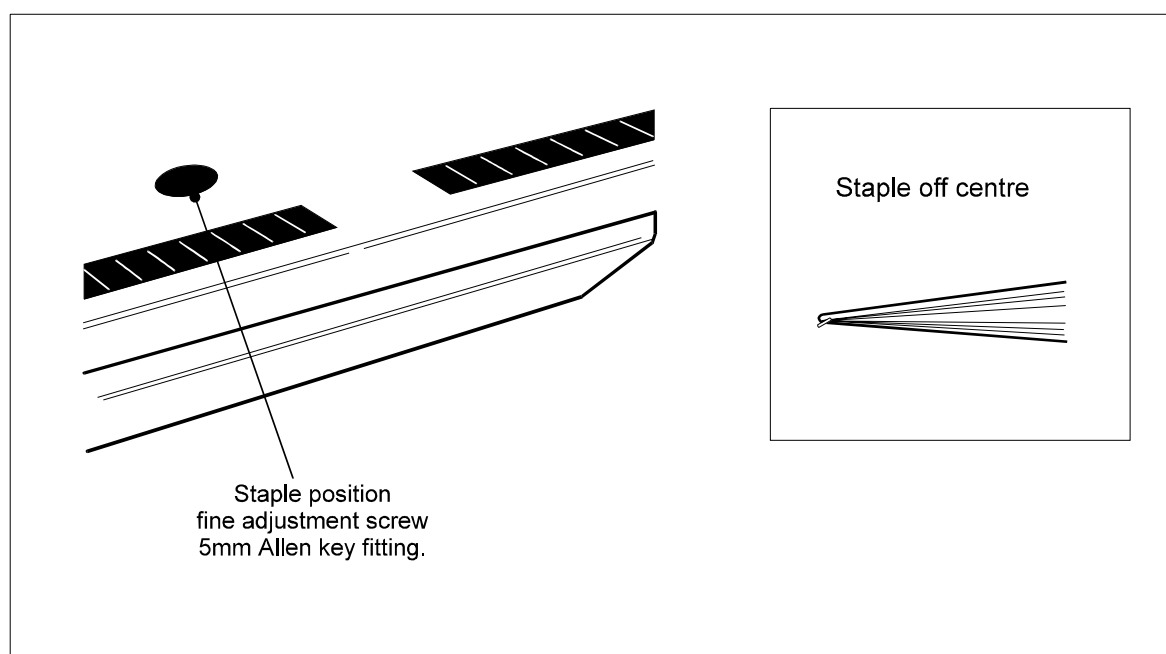

Figure 9 - Staple position fine adjustment
8. Staple Position Fine Adjustment. If, after correctly setting the fold stop adjustment wheel, it is found that the staples are not exactly on the fold line, this can be corrected by turning the staple position fine adjustment screw, figure 9.